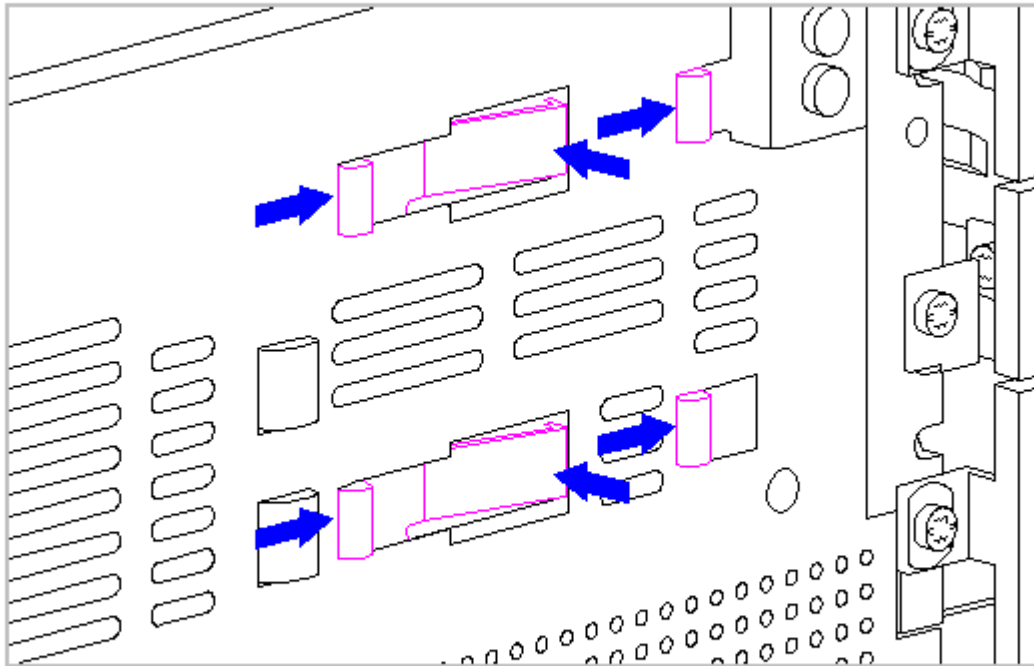

Figure 5-44. Removing the Card Guide
6. Release the card guide from the front panel by sliding the card guide toward the drive cage while applying pressure from the front of the computer (Figure 5-44). Manipulate the end of the guide with the LEDs out of the cutout first.